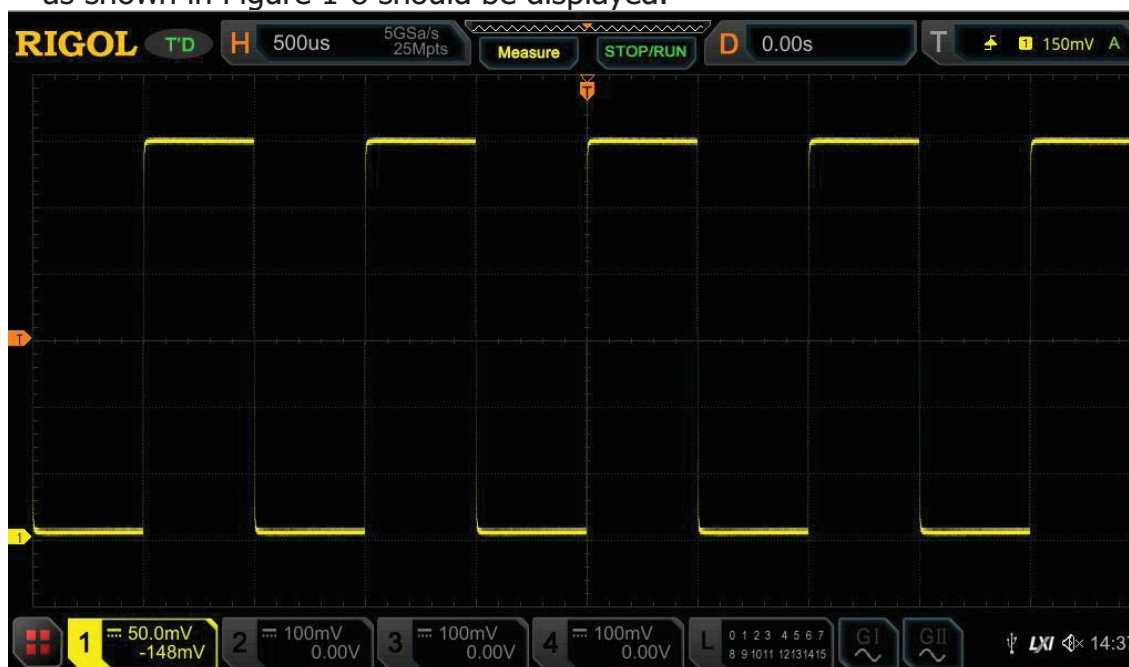

Figure 1-8 Square Waveform Signal
5. Observe the waveform on the display. In normal condition, the square waveform as shown in Figure 1-8 should be displayed.